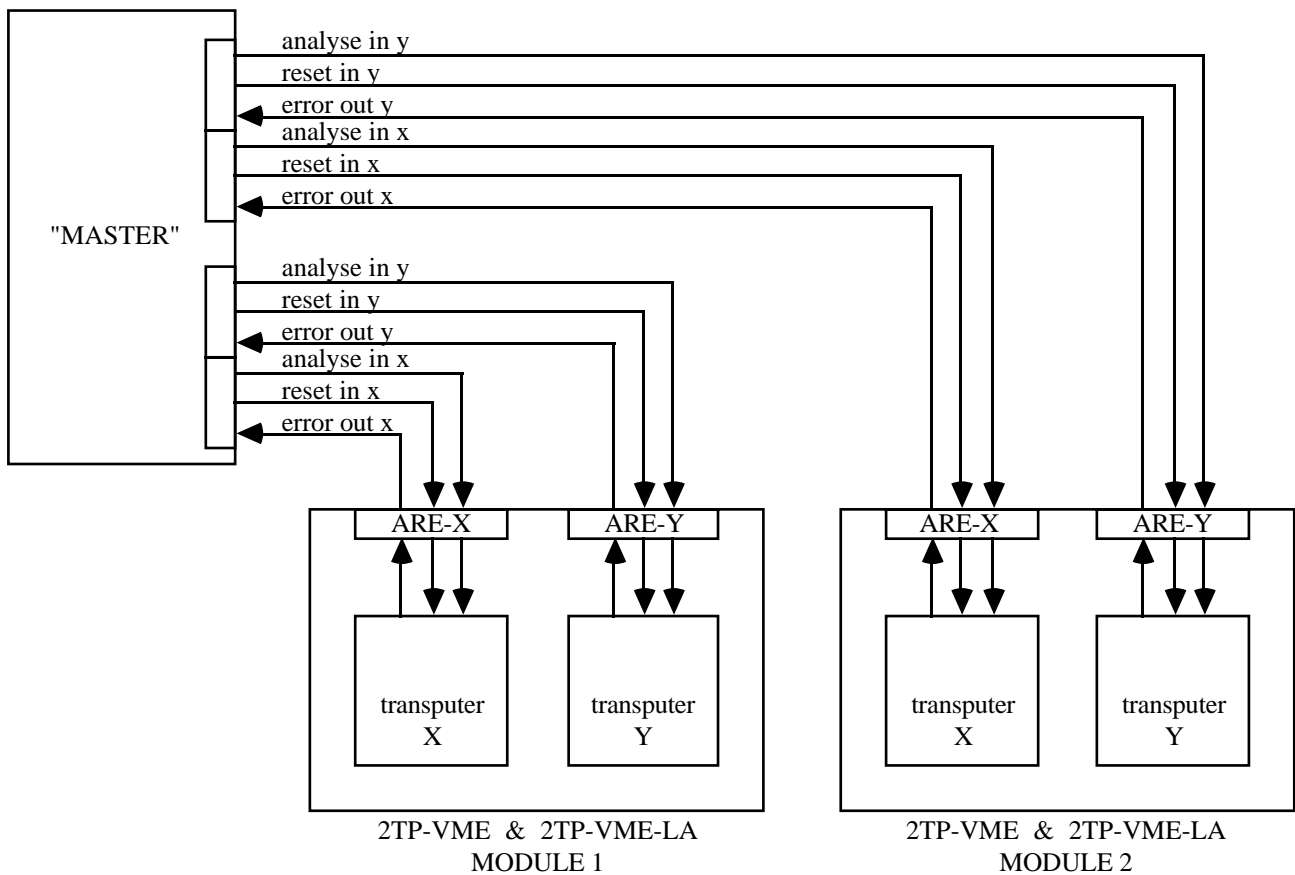

Figure 2. An example configuration with jumper block DAISY CHAIN in position OFF.
- DAISY-CHAIN = OFF: an independent analyse-reset-error connection with each transputer of the 2TP-VME Module. For an example with two 2TP-VME Modules, see figure 2: